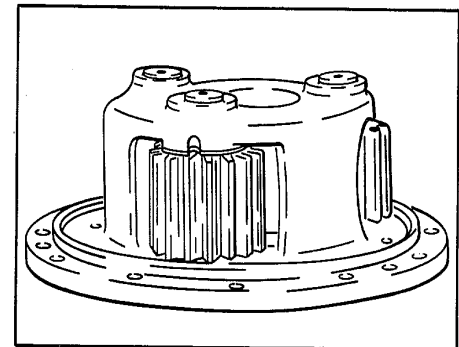

Figure 5.
5. Separate and remove planetary spider assembly from wheel hub assembly by use of puller screws in threaded holes provided in the spider flange (refer to Fig. 5).